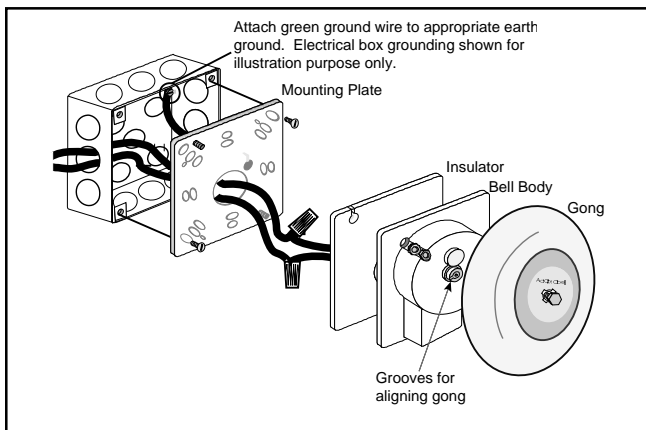

Figure 3. Installing the Adaptabel, Wall Mount
#### Wall Box Mounting (Figure 3)
4. Using wire nuts (not supplied), connect wires to circuit and push wires and connections down inside the electrical box (Figures 3 and 5).